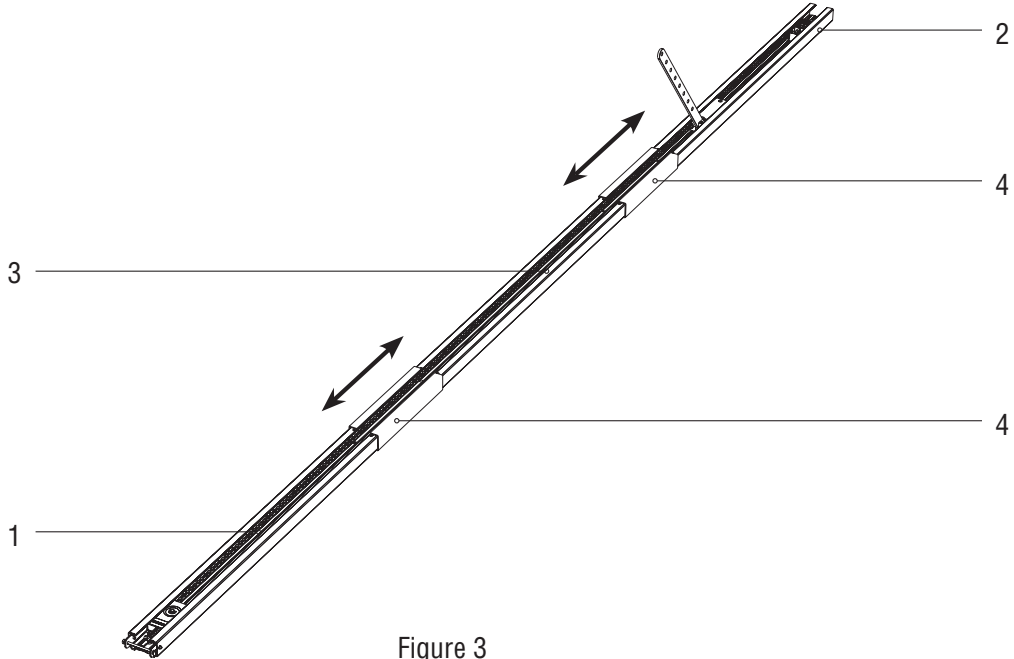

Figure 3
3. Connect three elements 1, 2, 3 using clamps 4, moving them along the guide (fig. 3).